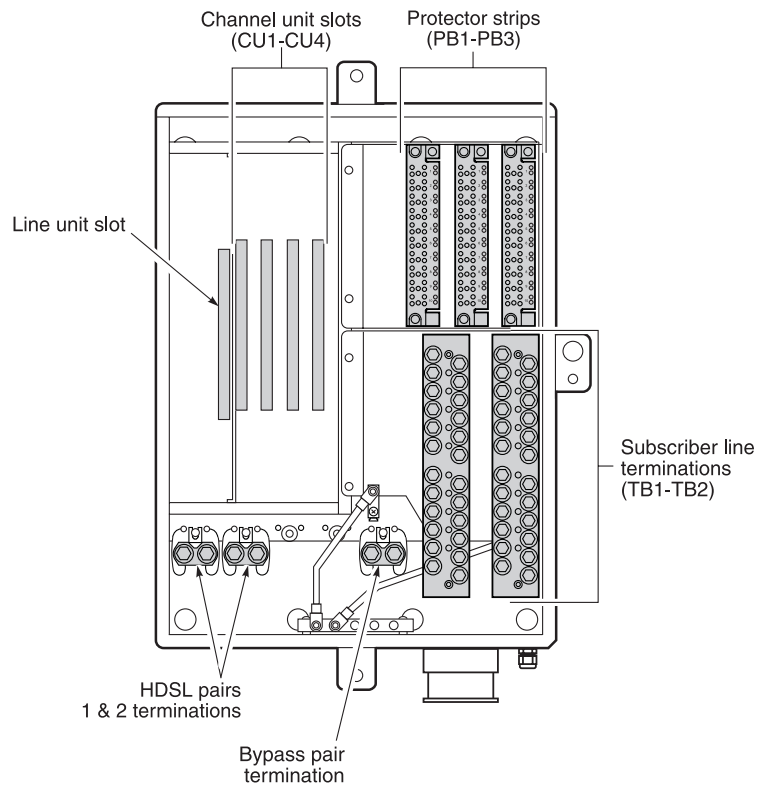

Figure 2. FRE-765 List 4A RT Enclosure (Interior View)
- List 4A—see Figure 2 on page 2